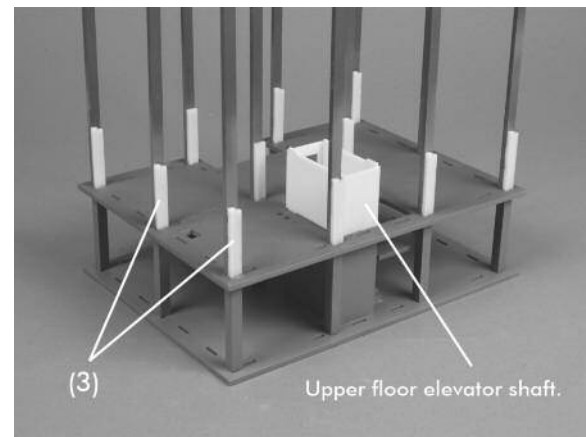

Figure 9
Glue a part (3) to each of the long columns with the tab located in the slot on part (B). See Figure 9 for proper orientation and location.
Glue an upper elevator shaft to part (B). See Figure 9.